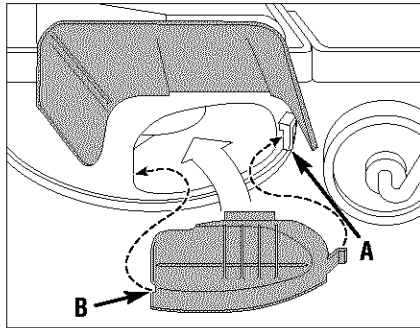

Figure 4-1: Mulcher cover
2. To install the cover, insert the right-side tab of the cover into the front support bracket (A, Figure 4-1). Insert the cover into the discharge opening, making sure that the slot (B) in the left side of the cover is completely engaged in the rear edge of the deck opening.